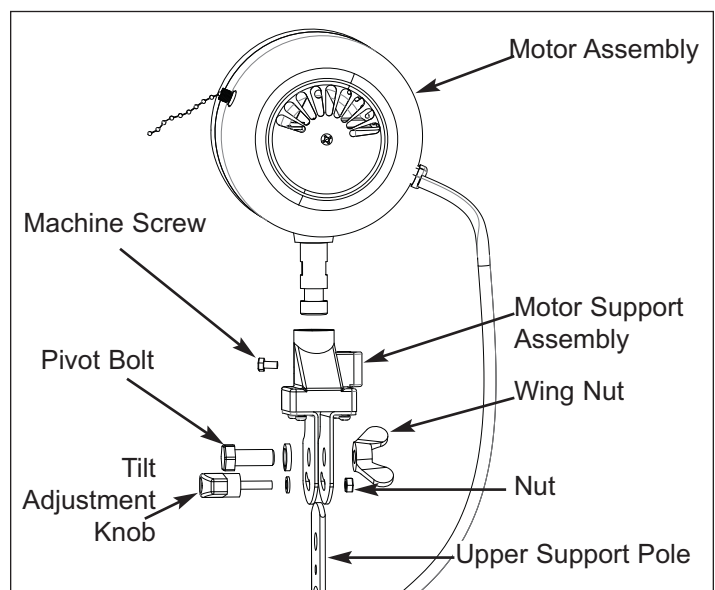

Figure 5: Attaching Motor to Motor Support Assembly
1. Attach Rubber Base Ring (item 16 on page 7) to outer edge of Base (item 15). Be sure ribbed side of Base Ring is facing down.
2. Remove 5 screws from Flange on bottom of Lower Support Pole (item 16).
3. Completely extend Upper Support Pole (item 21) from Lower Support Pole and insert Spring into bottom of Lower Support Pole.
5. Stand assembly on Base, and press down Upper Support Pole and then tighten Height Adjustment Knob (item 3).
6. Attach Motor Support Assembly to Motor Assembly (see figure 5).